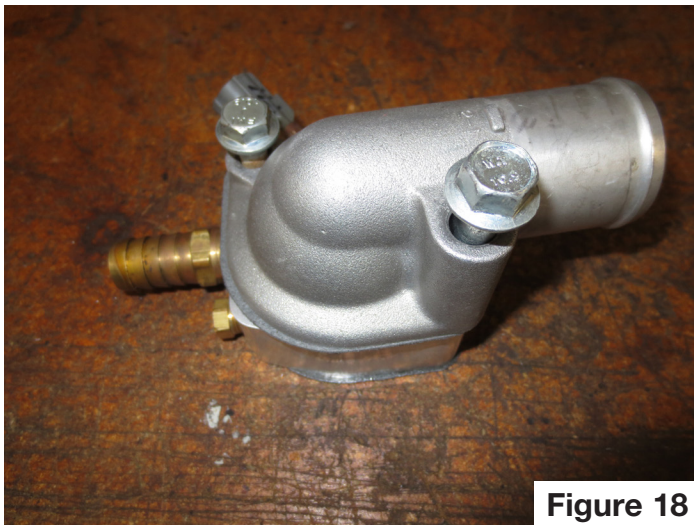

Figure 18
- 18) Insert the 75mm and 50mm M8 bolts and keep the assembly sandwiched together by hand ensuring that the thermostat does not fall out of its recessed groove in the spacer. Install the assembly on the rear of the engine, ensuring the coolant temp sensor is on top and the radiator hose outlet is facing towards the intake side of the engine. Keep it sandwiched tightly together as you tighten the bolts to 16 ft-lbs. **Figure 18.**